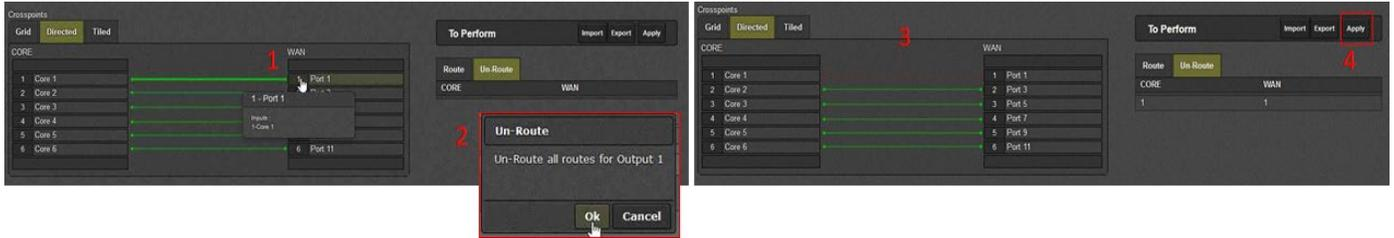

Figure 4-24 : WebEASY® - Link Aggregation\Directed View\Removing Links in Directed
Directed view also allows for unmapping without creating a new route (shown below in Figure 4-24). To do so, select the port to be unmapped (1), this will bring up a menu prompting the user if they wish to un-route for that port (2) click ok to un-route, once this is done the link will appear in red and will be displayed in the 'Un-Route' table in the 'To Perform' menu (3). Click 'Apply' in the 'To Perform' menu to apply changes (4).